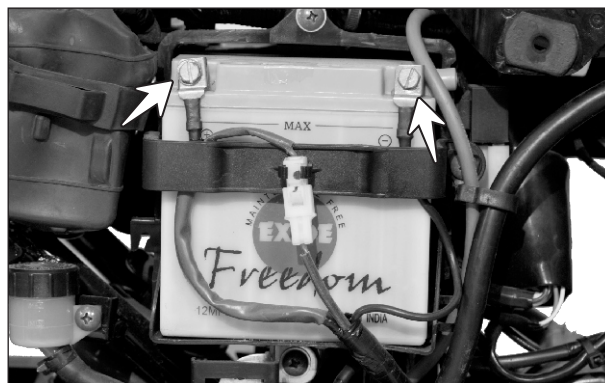

Fig. 3.120
- Disconnect the negative terminal first followed by the positive terminal from the battery assembly. (Fig. 3.120)